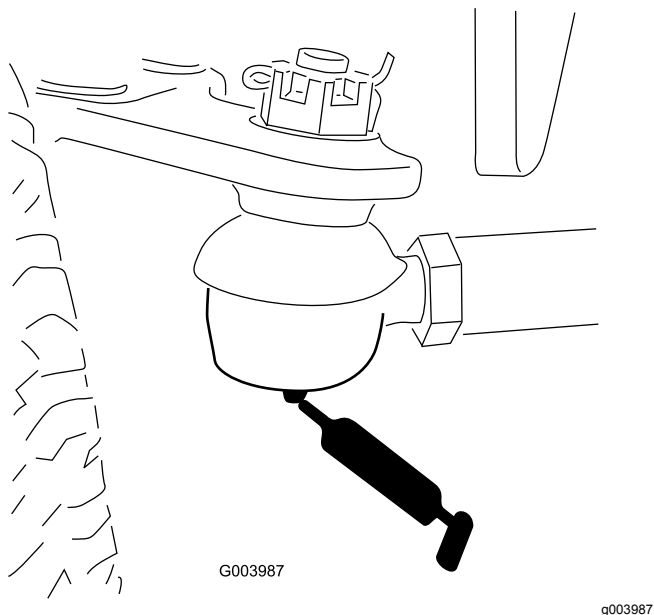

Figure 65
- Rear axle tie rod (2) (Figure 65)